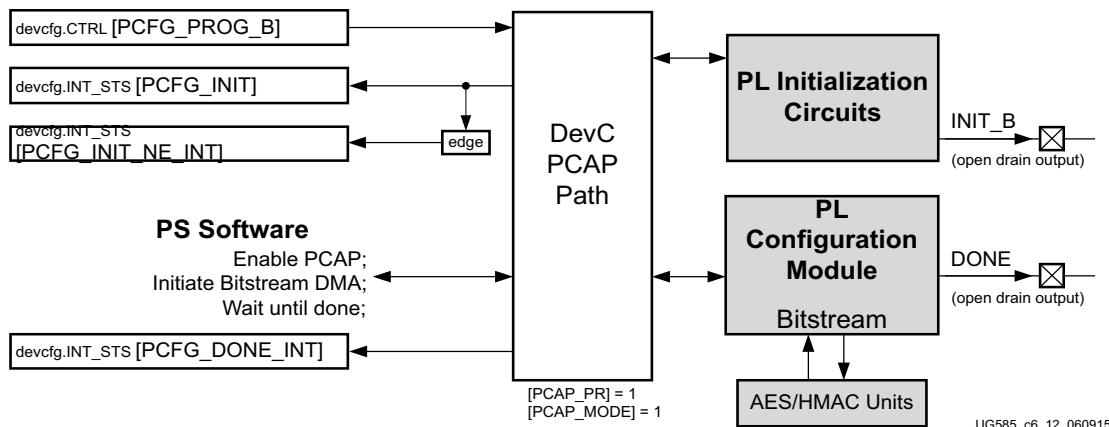

Figure 6-11: PCAP Path for PL Initialization and Configuration
4. **FSBL/User Code to Initialize and Configure PL.** The controls are shown in Figure 6-11. Refer to UG821, Zynq-7000 SoC Software Developers Guide for information on creating FSBL/User code.
The PL is controlled by PS software (Figure 6-11) through the PCAP bridge or using external pins and the JTAG interface associated with the PL (Figure 6-19).
The PS and PL can be brought up together in a secure or non-secure mode. The simultaneous bring-up of the PS and PL is shown in Figure 6-11. Also refer to Figure 6-4 for details on power, reset, and clock interactions and timing examples. The PS non-secure bring-up using a flash device without JTAG illustrates a simple example with minimal resources. The example is shown in Figure 6-13. When the PL is needed later in the system operation, its bring-up is explained in the PL Bring-up by FSBL/User Code example.